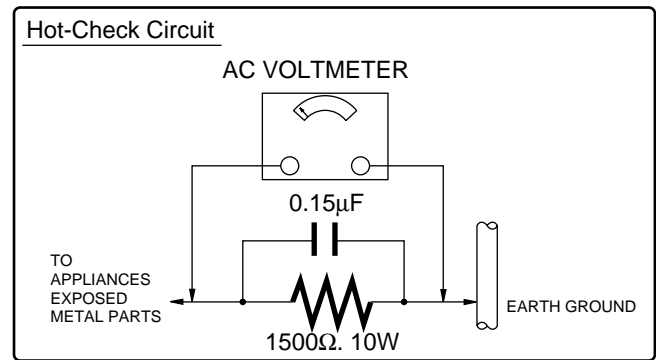

Figure. 1
LEAKAGE CURRENT HOT CHECK (See figure 1.)
- Connect a 1.5k ohm, 10 watts resistor, in parallel with a 0.15 micro farad capacitor, between each exposed metallic part on the set and a good earth ground, as shown in figure 1.